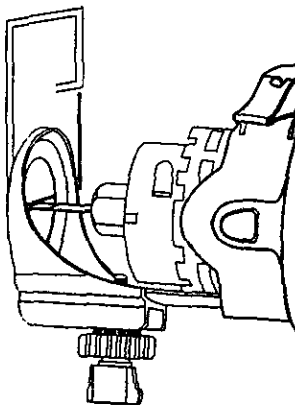

Fig. 8
5. Hold the tool firmly with both hands and turn it ON. Plunge the bit through the drywall at the mark indicating the centre of the box. See Fig. 8 for cutting pattern.